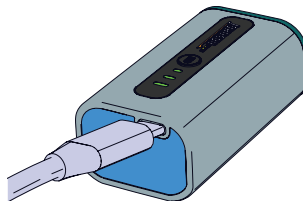

Figure 7
5. Connect the Type C, USB adapter/charger to battery charging port located on the front of the battery. (Figure 7)